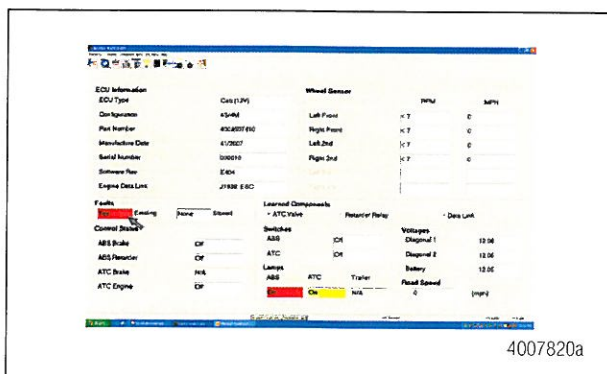

Figure 10
3. To verify status of the ESC initialization, double-click on the fault box from the initial screen. Figure 10.